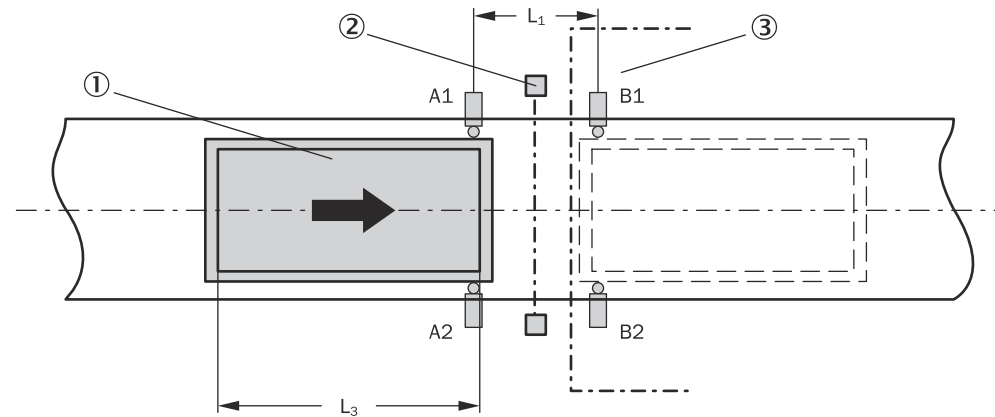

Figure 10: Example for parallel muting
- With parallel muting – between the electro-sensitive protective device and sensors A1 / A2 as well as between the electro-sensitive protective device and sensors B1 / B2 (see figure 10, page 20).